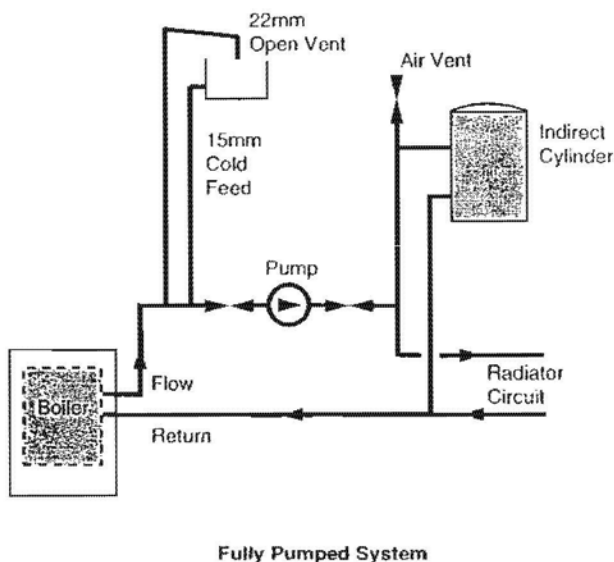

Fig. 3
3.5 Fully Pumped Open Vent System (Fig. 3)